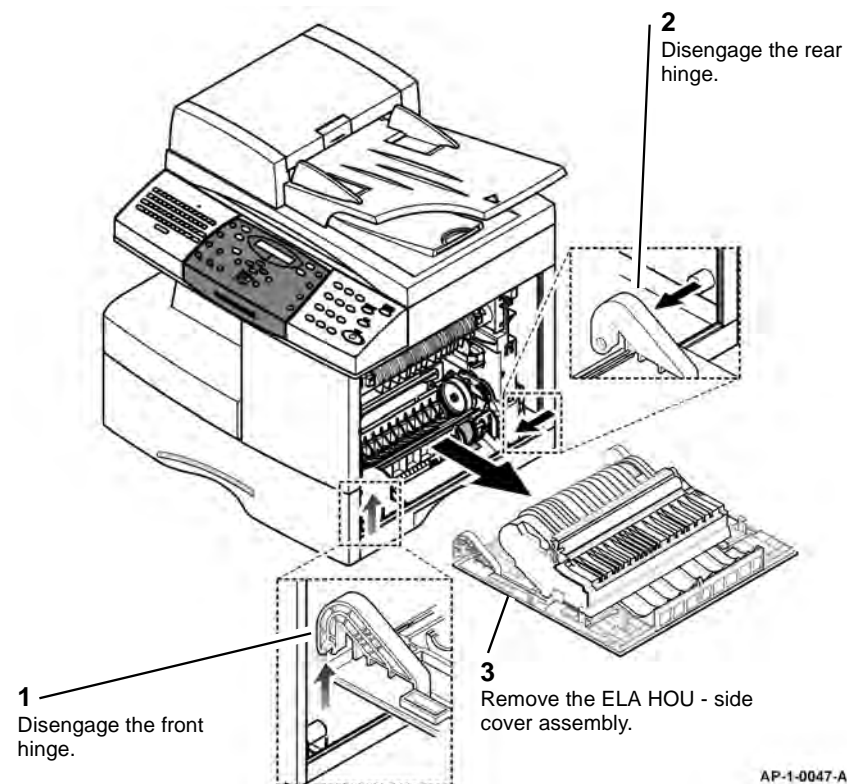

Figure 2 ELA HOU - side cover removal
2. Fully open the ELA HOU side cover assembly. Remove the ELA HOU - side cover assembly, Figure 2.